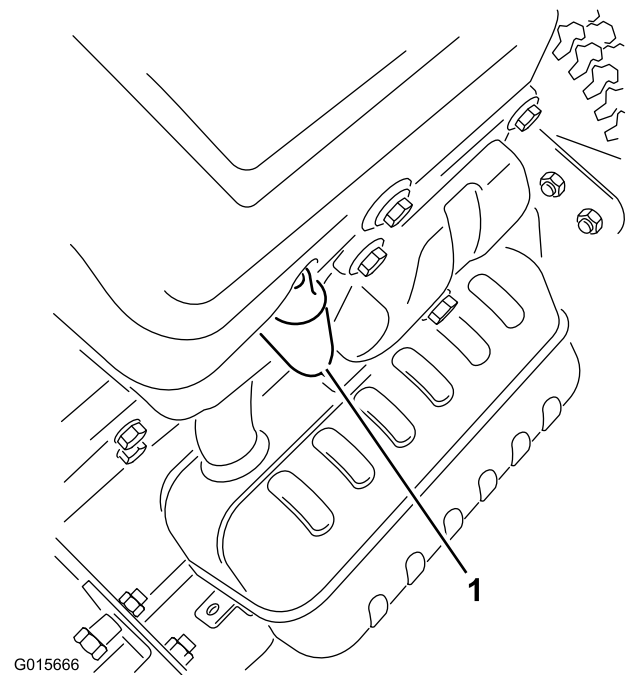

Figure 24
4. Disconnect the wire from the spark plug (Figure 24).